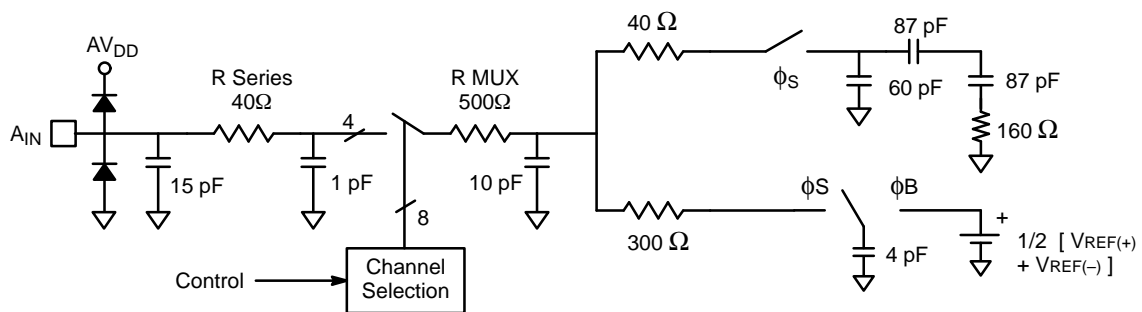

Figure 9. Analog Input Equivalent Circuit
- See V_{IN} input equivalent circuit (see Figure 9.).
The MP8799's performance is optimized by using analog input circuitry that is capable of driving the A_{IN} input. Figure 9. shows the equivalent circuit for A_{IN} .